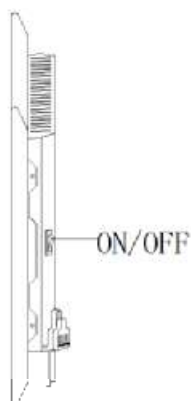

Fig.7
7. Drill two screws into the upper wall support .(Fig.7)
Once the heater has been correctly placed and plugged into the socket, please press "Main Power switch" to " I " position to have voltage in it. (Fig 7)